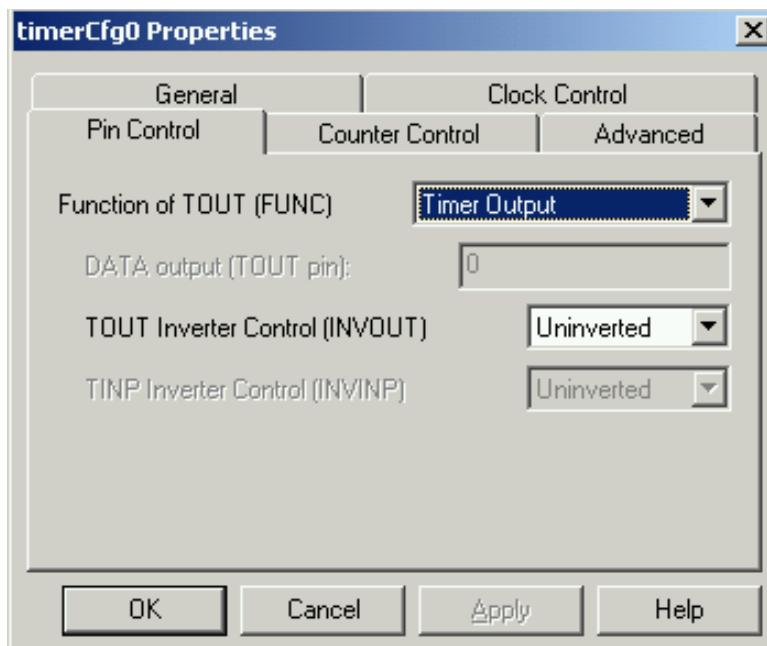

Figure 23. Timer0 Cfg. Pin Control Tab Options
2. In the Pin Control tab, select options as shown in Figure 23. Function of TOUT is Timer Output and TOUT is uninverted.